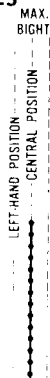

Fig. 27
**STITCHING:** Straight stitching midway between two extremes of maximum bight, as shown in Fig. 27, at right.